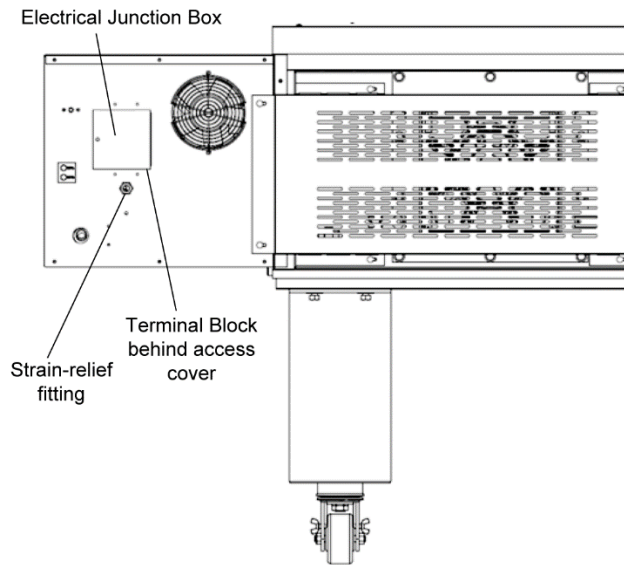

Figure 16. Utility Connection Locations for Gas Ovens
3. Orient the base pad assembly such that the restraining clip is in the rear. Install the lower oven cavity onto the base pad. See Figure 16.